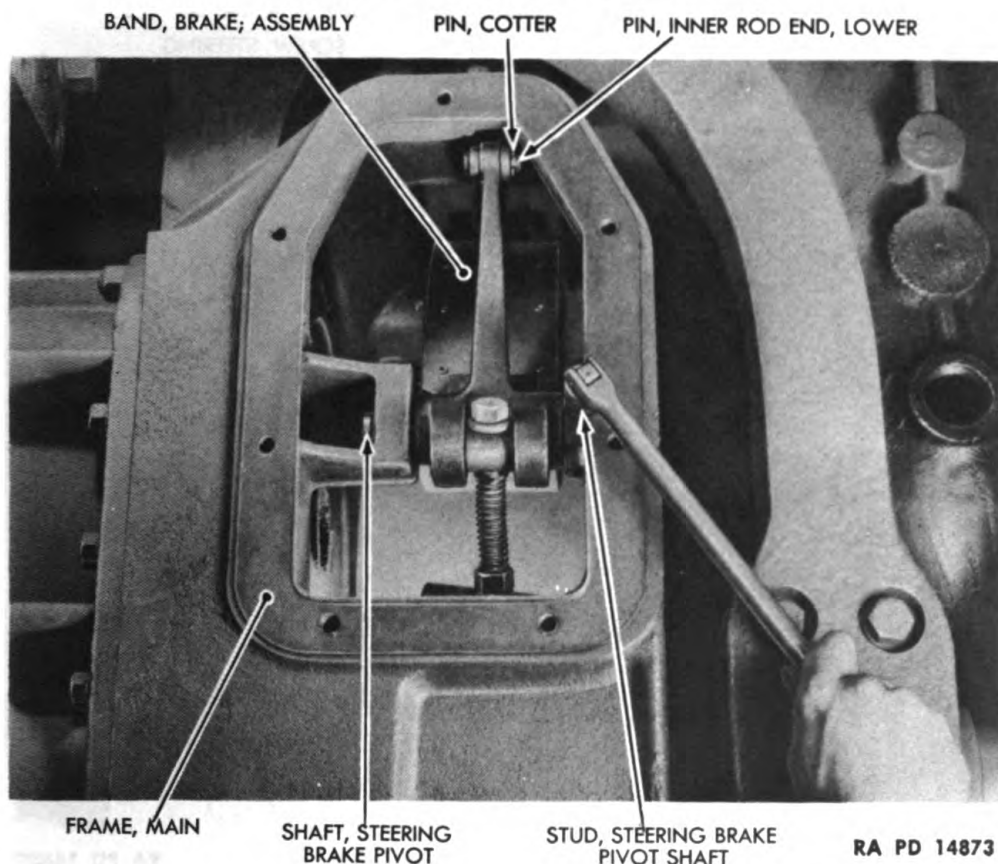

Figure 73 — Steering Brake Pivot Shaft Stud Removal
(2) REMOVE STEERING BRAKE PIVOT SHAFT STUD (fig. 73).
(4) REMOVE BRAKE BAND ASSEMBLY FROM MAIN FRAME (figs. 73 and 75).
- (1) POSITION BRAKE BAND ASSEMBLY IN MAIN FRAME (figs. 73 and 75).
- (2) INSTALL LOWER INNER ROD END PIN (fig. 73).